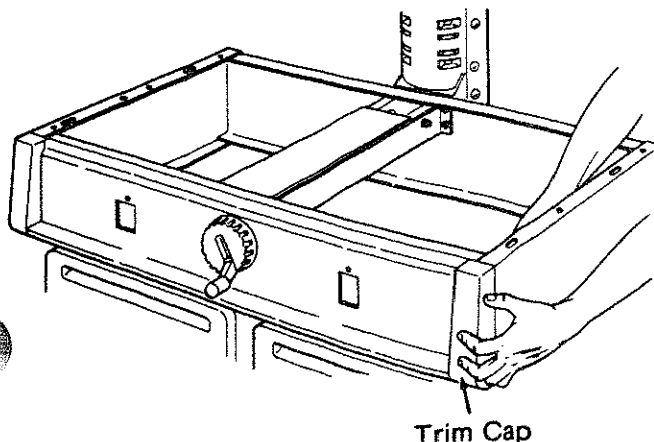

Fig. 72
3. Hold the *right trim cap* in place on the front right side of the cabinet. (Figure 72)